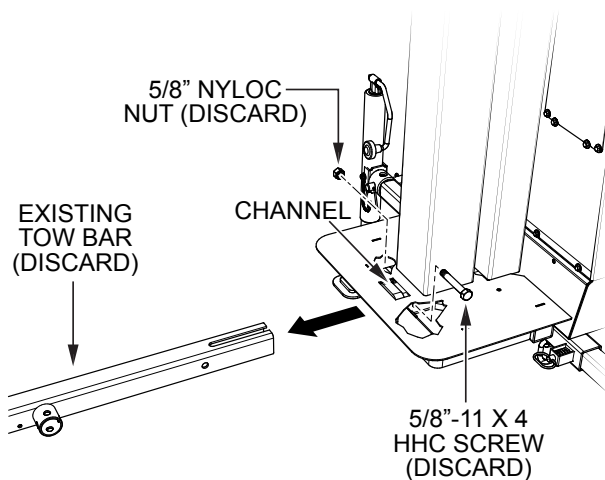

Figure 8. Existing Tow Bar Removal
- Remove the 5/8"-11 X 4 HHC screw and 5/8" nyloc nut (Figure 8) that secures the tow bar (Figure 8) to the frame.